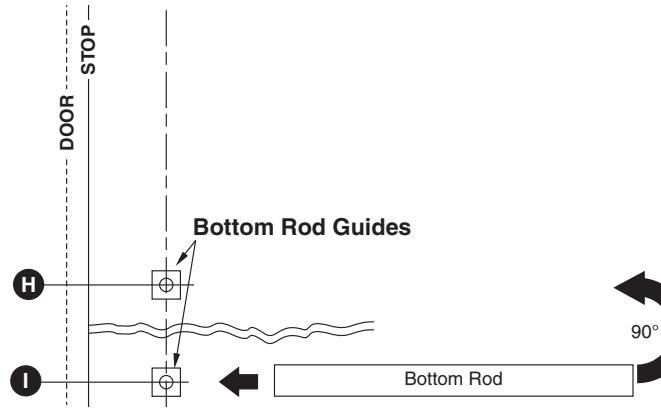

Figure 10
2. Slip bottom rod over guide and rotate to vertical position, sliding rod up over guide "H". (Figure 10)